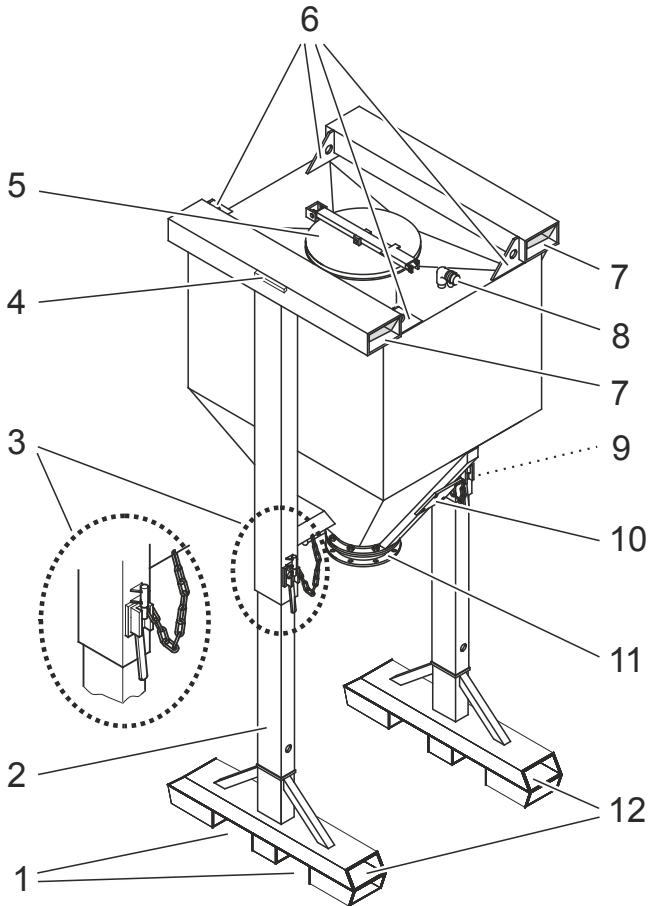

Fig. 1: General view
The silo is fitted on the top and bottom with forklift receivers for transport (Fig 1, 7 + 12).
Under the bottom forklift receivers there are receivers for a hand lift (Fig 1, 1).
When the silo is transported with a crane the four sling ropes must be attached to the provided crane eyes (Fig 1, 6) only.
The brick fork may be used to carry only the empty silo. The brick fork must be applied to the stop (Fig 1, 4) provided for this purpose.
- *remove the blank cap from the venting socket (Fig 1, 8) and check the line for unobstructed passage*